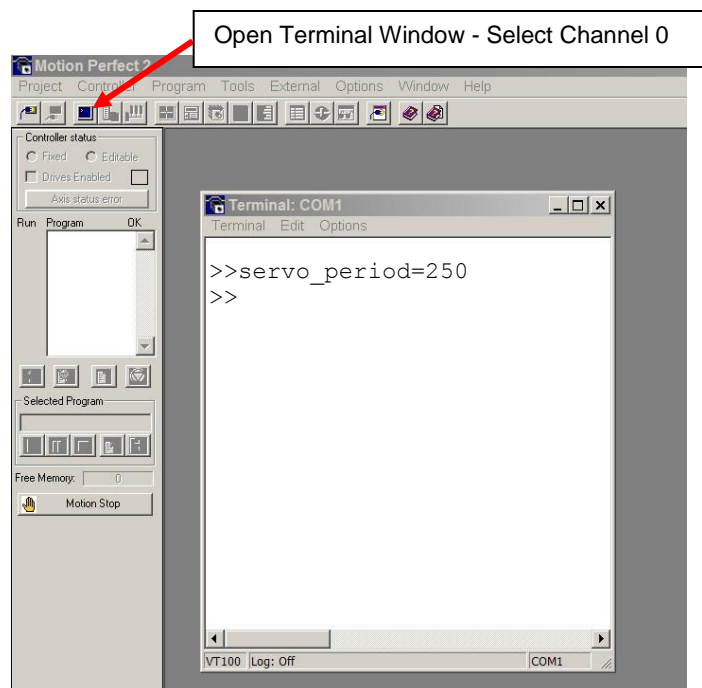

Fig 5 – Setting MC302-K SERVO\_PERIOD
2. Open the Channel 0 Terminal window as shown in Fig. 5.
As with all Trio controllers, the Command Line interface ">>" can be a useful tool for debugging a system as shown in Fig 5. Drive parameters can be read and written to using the DRIVE\_ commands listed in Section 5.0. Other Trio BASIC command can be issued here such as FORWARD, CANCEL, MOVE(x). Visit [www.triomotion.com](http://www.triomotion.com) for the complete manual of commands.